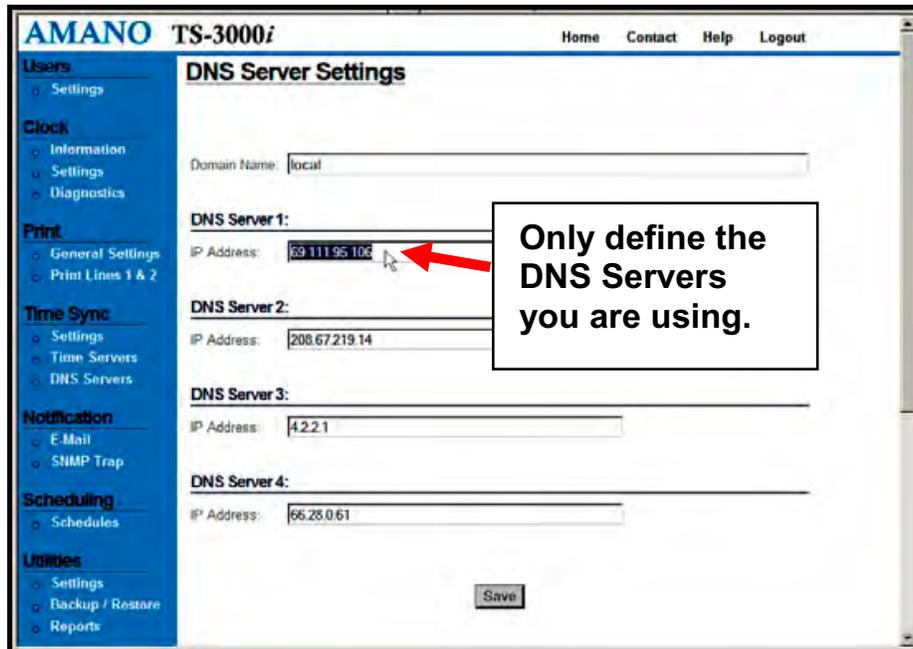

Figure 4-14: DNS Server Settings
Step 1. Click on the DNS Servers link under Time Sync, and the **DNS Servers Settings** screen will appear displaying the four (4) default public DNS servers (see *Figure 4-14*).